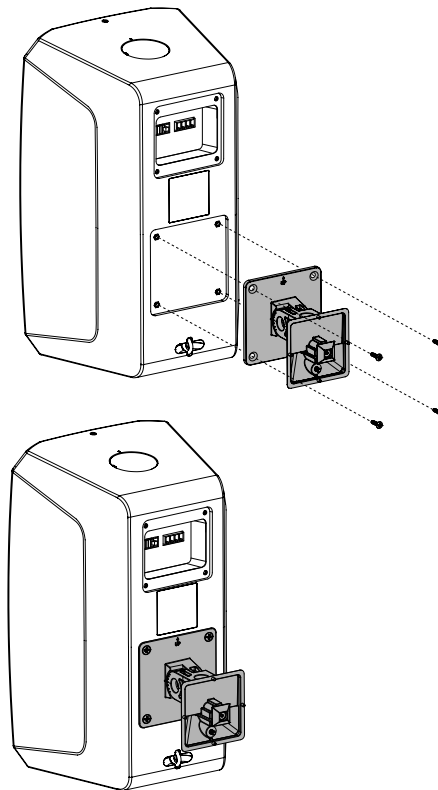

Figure 15
Place the flat end of the swivel bracket onto the matching VESA hole pattern on the back of the loudspeaker. Use the UP arrow printed on the swivel bracket to properly align the bracket and connector. Use the four (4) included screws to secure the plate to the loudspeaker. (Figure 15).